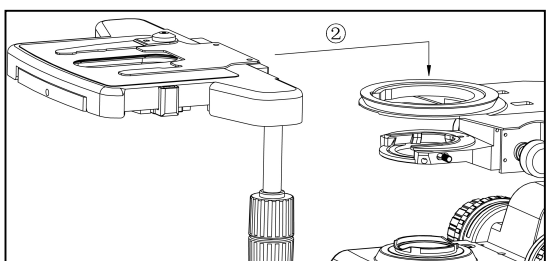

Figure 21
4-2-2 Installation of Mechanical Stage Device (图 21、22)
★ The mechanical stage is installed according to the path of No. ② in Figure 21. First, roughly align the center of the stage hole with the center of the bracket circle, and then slide the stage down to the bracket positioning ring.